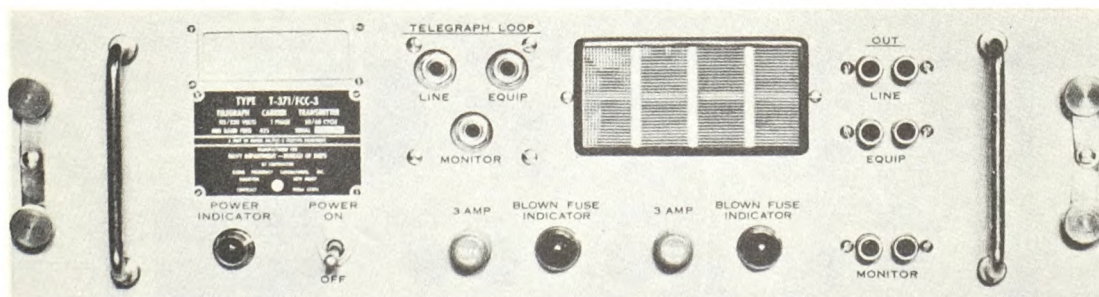

Figure 4-1. Telegraph Carrier Transmitters T-371/FCC-3 through T-382/FCC-3, Identification of Controls
a. GENERAL. - Refer to figure 4-1 for the position of the various front panel operating controls and their functions. The front panel jacks are for signal patching and test purposes. The left-hand side of the OUT EQUIP jacks and the OUT MONITOR jacks are grounded. Care should be taken that all patching jacks and cords used with the equipment are polarized. TELEGRAPH LOOP jacks are provided for patching and monitoring purposes. The telegraph carrier transmitters operate as the transmitting part of the Telegraph Carrier Terminal AN/FCC-3, as shown in the block diagram of figures 2-1 and 2-2. Table 1-3 gives the carrier frequencies of the transmitters. All transmitters, regardless of frequency channel, are the same in wiring. The units differ in the frequency determining components as listed in table 1-4 and the connections to the bias adjusting capacitors C102, C103, C104, C105, and C106. Normally, the equipment does not require adjustment during operation and, therefore, does not have operation controls on the front panel. The rear chassis controls are maintenance adjustments and remain in correct adjustment over long periods of time.